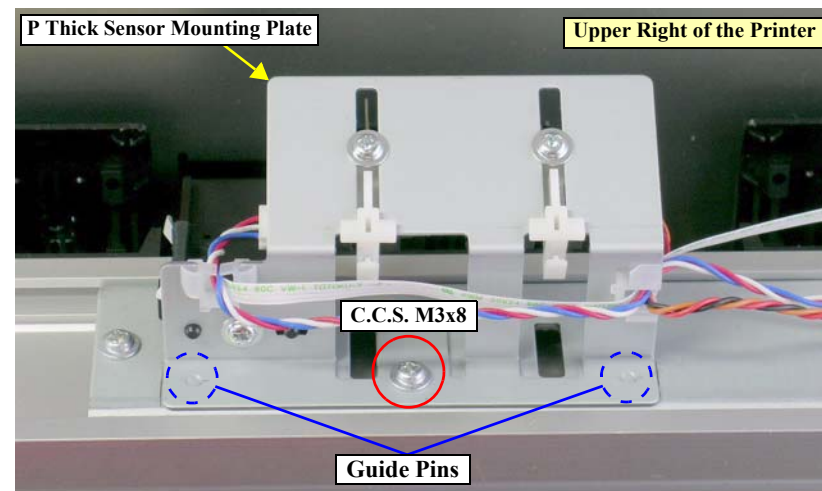

Figure 4-93. Screws Securing the P Thick Sensor Mounting Plate
*See Figure 4-93.*
When reinstalling the P Thick Sensor Mounting Plate, make sure the two guide pins on the Mounting Plate are set in the mounting holes. *See Figure 4-93.*